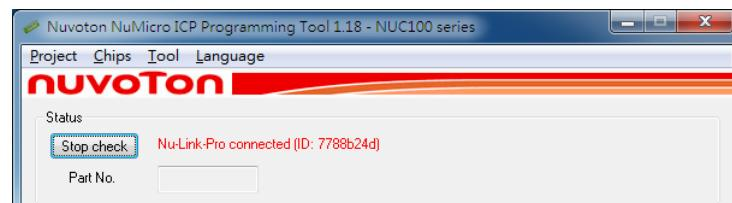

Figure 4-8 Nu-Link Adapter Connected with No Target Chip Detected
Step 6b: Figure 4-8 shows that the ICP Tool has been connected with the Nu-Link Adapter with no target chip detected. The ICP tool will continue detecting the target chip until the **Stop Check** button is clicked. At this time, the user cannot program any chip, but can use the offline programming to save the offline programming information in the Nu-Link Adapter.
Step 7: Click the **Disconnect** button if programming is not needed (as shown in Figure 4-7). Or click the **Stop Check** button to disconnect the ICP Tool with the Nu-Link Adapter and leave the Nu-Link Adapter unused (as shown in Figure 4-8). As such, the Nu-Link Adapter can be connected with another tool.